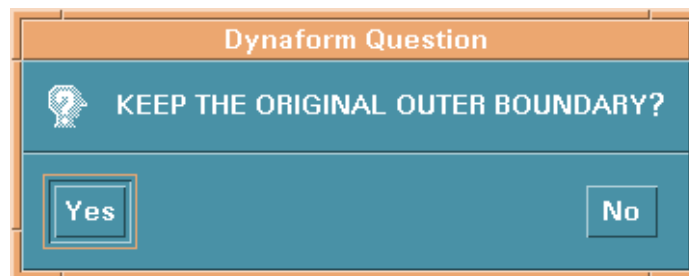

Figure 6.2.6 Dynaform Question Window
- After the curve is defined or selected, DYNAFORM prompts “KEEP THE ORIGINAL OUTER BOUNDARY”, see the Figure 6.2.6. Select YES to keep the surface between the original outer boundaries and the defined or selected curve; select NO to keep the surface within the defined or selected curve.